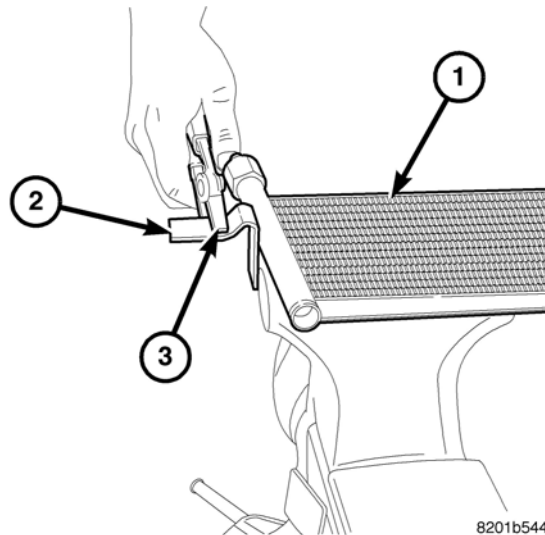

Fig. 6 BENDING LEFT TRANSMISSION COOLER BRACKET
8. Release the transmission cooler from the vise and lay the cooler on a flat surface. Using pliers, carefully bend the tab so that the tab/bracket is approximately 1/4 inch (6 mm) overflush with the back side of the cooler as shown in (Fig. 6)